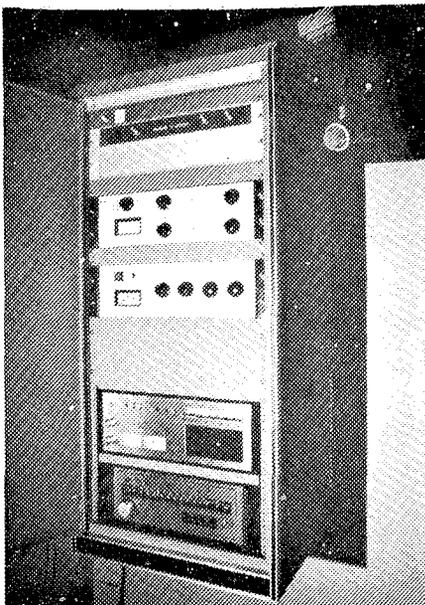

Figure 1
1. Cabinet - Designed to house Items 2 through 5 below and to provide security and proper ventilation. See Figure 1.